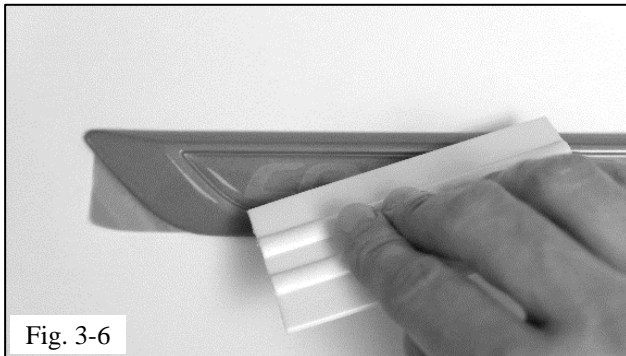

Fig. 3-6
- (f) Using a squeegee, apply firm pressure to the badge along edges and corners to ensure full adhesion, being careful not to scratch the surface of the body side molding (Fig. 3-6).